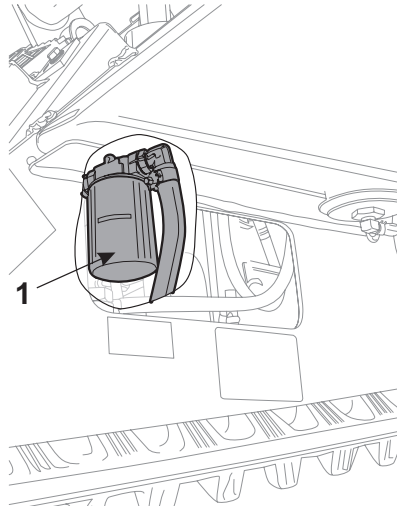

Figure 4-15 Hydraulic Oil Filter
3. Change the hydraulic filter. See Service Manual and Figure 4-15.
- a. Remove the spin-on hydraulic filter (Item 1, Figure 4-15) from the filter mount that is located underneath the hydraulic cooler.